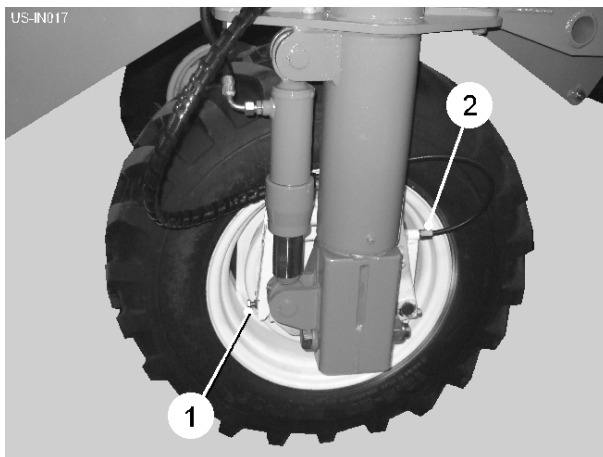
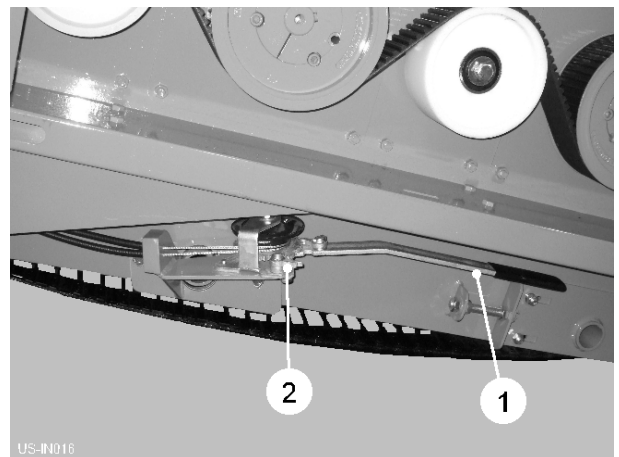

Fig 13
Fig 14
Connect the hydraulic brake hose to the tractor 'brake service outlet'. The machine brakes will operate when the tractor brakes are applied. Brake shoe wear can be taken up by adjusting the setscrews (item 1, fig 13).
To apply the handbrake, pull the lever (item 1, fig 14) in and out against the ratchet until the brake cables are fully tensioned. To remove the handbrake, pull the lever fully out to release the ratchet mechanism catch (item, 2, fig 14). Finally, push the lever back under the machine for transport. Handbrake cable length is set on the cable adjusters (item 2, fig 13).